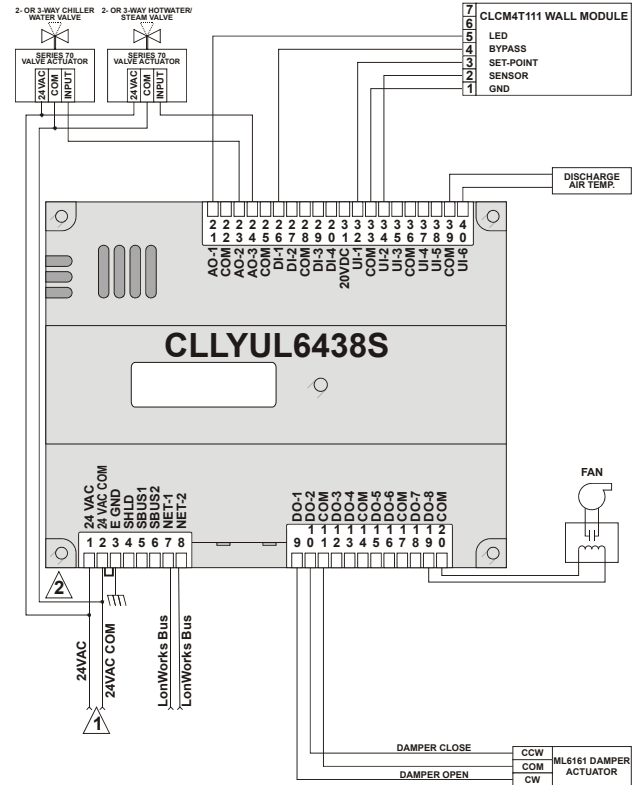

Fig. 20. Controller wiring diagram (CLLYUL6438S shown) with 4...20 mA heating, cooling, and ML6161 damper actuator
- Typical controller wiring for 4...20 mA heating, cooling, and model ML6161 floating motor control (see Fig. 20).